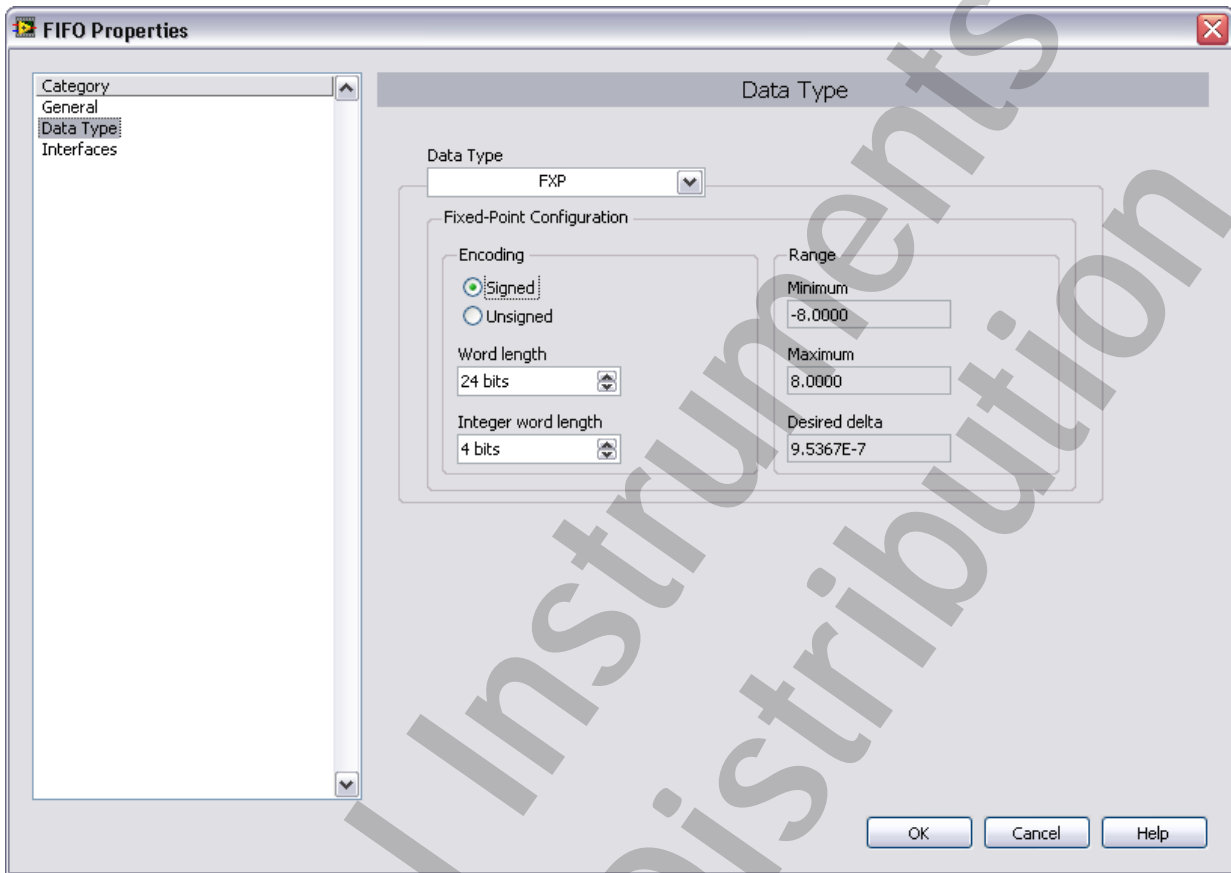

Figure 9-10. Accelerometer Data Properties – Data Type
- ❑ Select the **Data Type** category. Configure the settings as shown in Figure 9-10.
- ❑ Select the **Data Types** category. Configure the settings as shown in Figure 9-10.